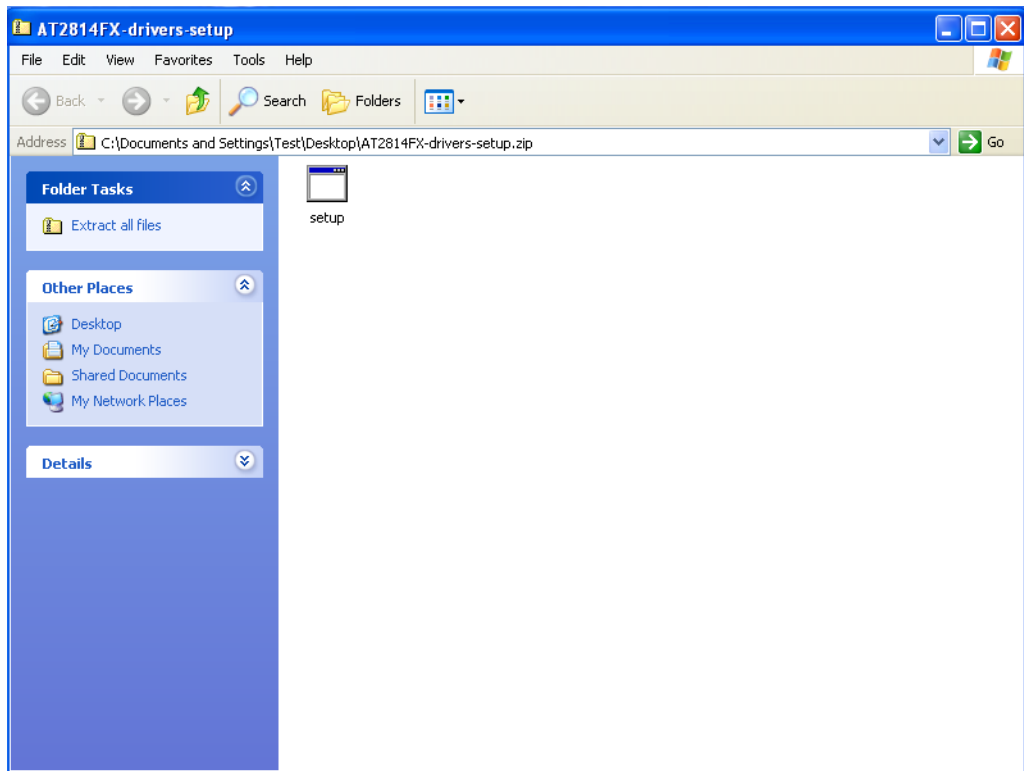

Figure 5. Setup File
2. Open the folder. Figure 5 shows an example in the Windows XP operating system.